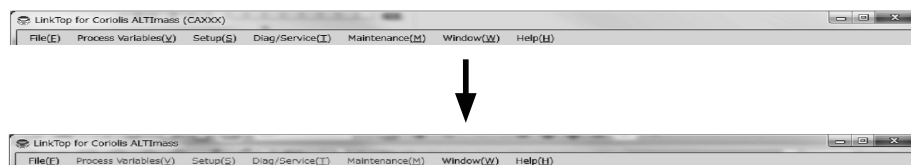

Fig.14
- ④ When connection is terminated, part of the menu becomes inactive (indicated in gray) as shown in Fig. 14.